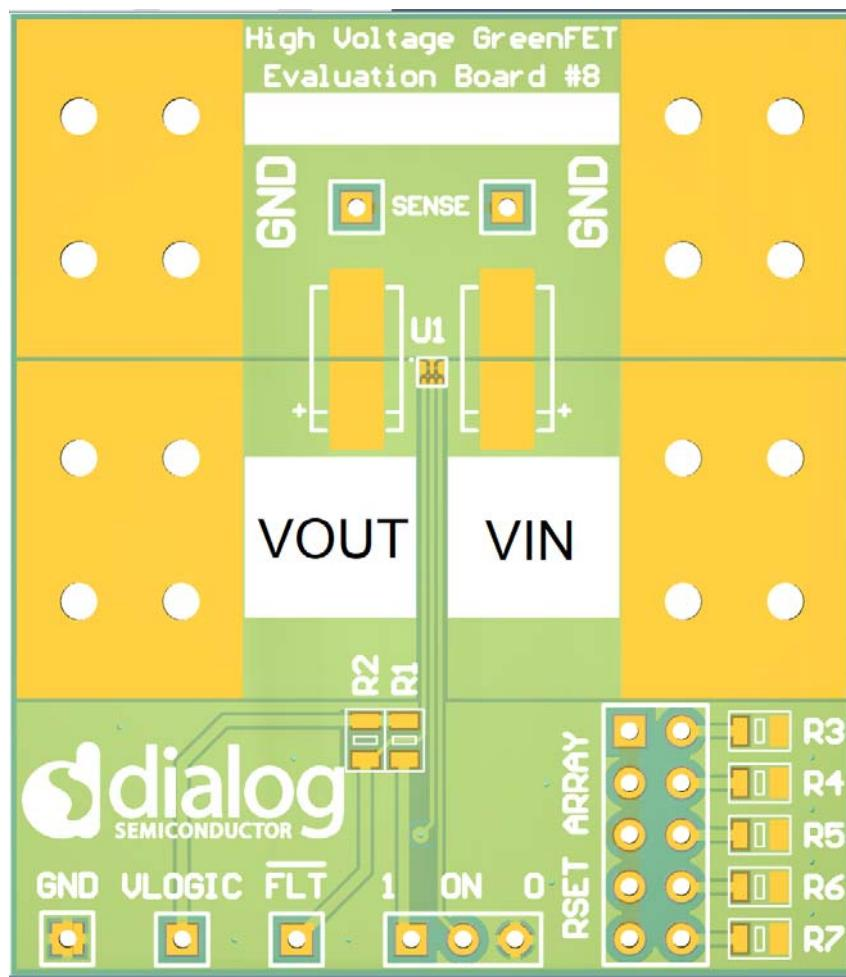

Figure 13. SLG59H1343C Evaluation Board
1. Since the IN and OUT pins dissipate most of the heat generated during high-load current operation, it is highly recommended to make power traces as short, direct, and wide as possible. A good practice is to make power traces with an absolute minimum widths of 15 mils (0.381 mm) per Ampere. A representative layout, shown in Figure 13 illustrates proper techniques for heat to transfer as efficiently as possible out of the device;
A High Voltage GreenFET Evaluation Board for SLG59H1343C is designed according to the statements above and is illustrated on Figure 13. Please note that evaluation board has Sense pads. They cannot carry high currents and dedicated only for RDSON evaluation